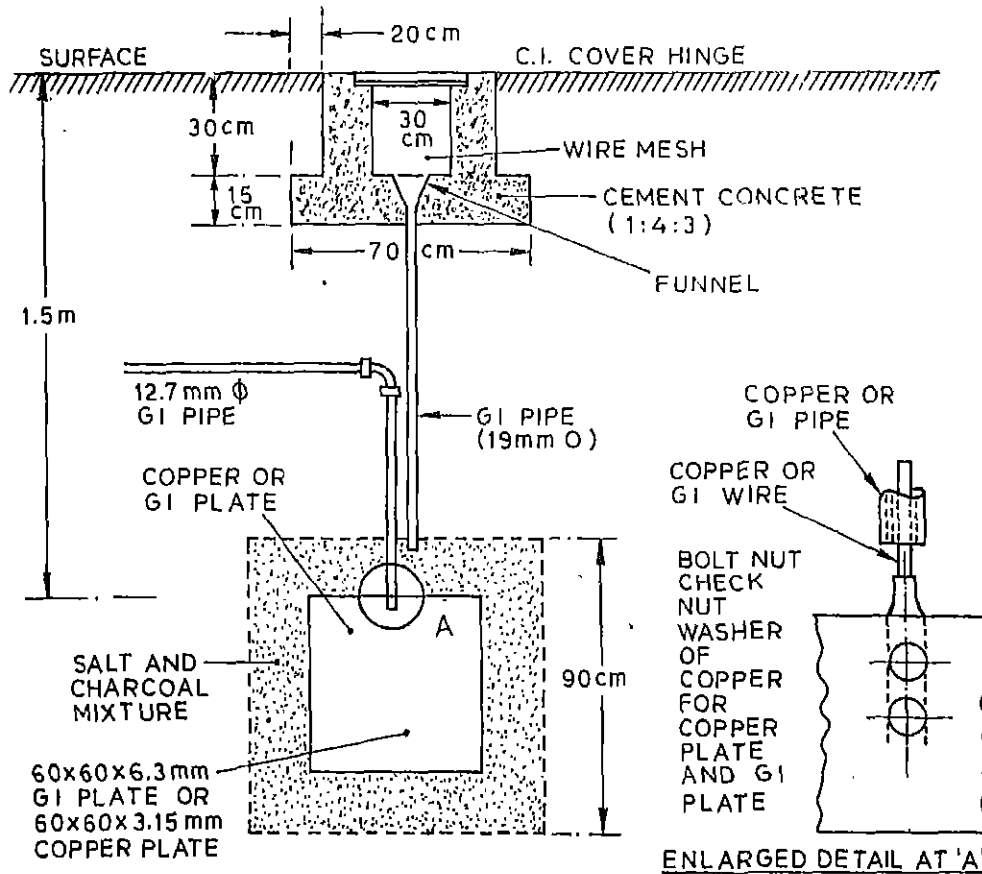

Fig. 19.1 Details of an Earth Pit
- (iv) structural metal parts of indoor and outdoor sub-stations, metal cable jointing boxes, steel poles and towers, details of an earth pit as shown in Fig 19.1.